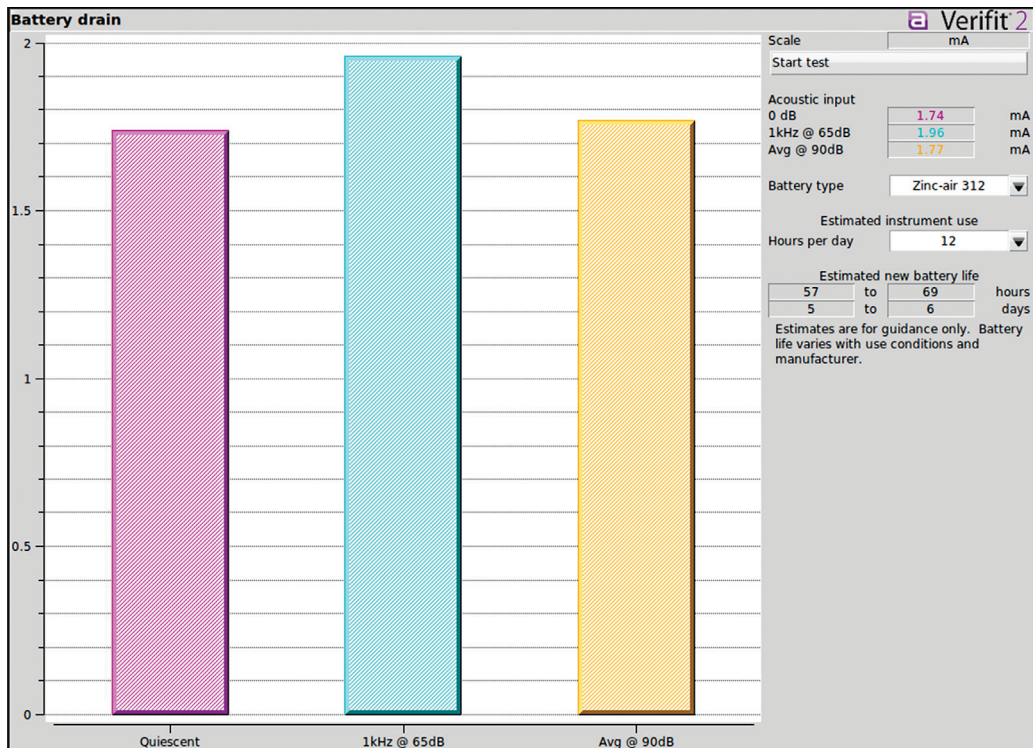

Figure 13 Battery drain test results (also see Figure 1F).
9. Look under the Estimated New Battery Life label (Figure 13). With the hearing aid set at this volume and the user wearing it 12 hours per day, a new battery is expected to last for 5 to 6 days. Remember, this is only an estimate.